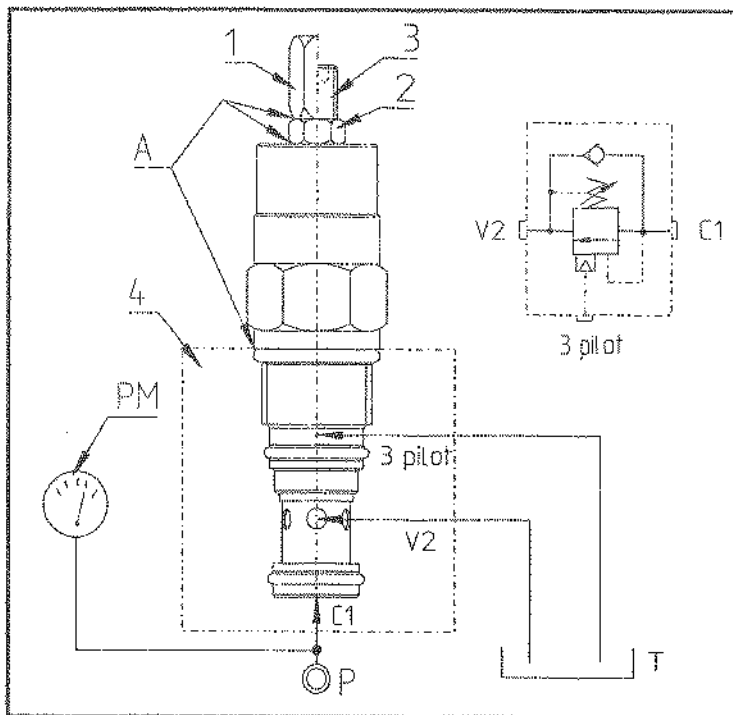

Figure 23-1
1. The valve is fixed to adjustment block 4 in accordance with the drawing (figure 23-1).